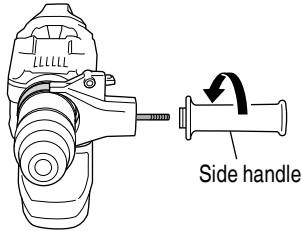

Fig. 14
- Adjusting the band to a position that is suitable for the task, turn the side handle to fasten the band. Make sure that the band is securely fastened. (Fig. 14)